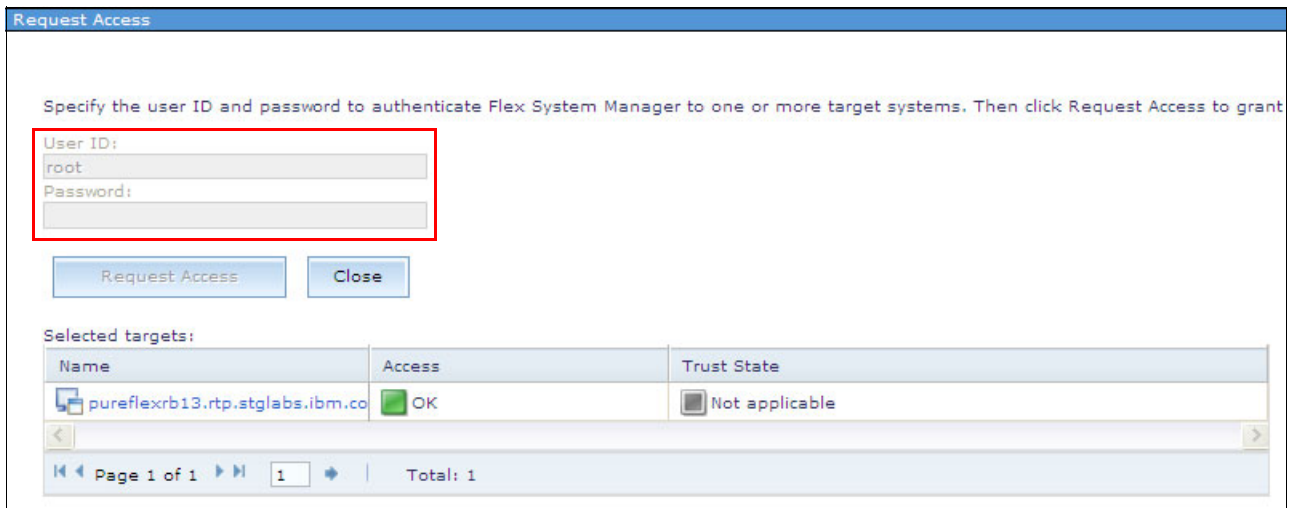

Figure 10-42 Request Access window
7. Enter the root password for your NIM server, as shown in Figure 10-42.